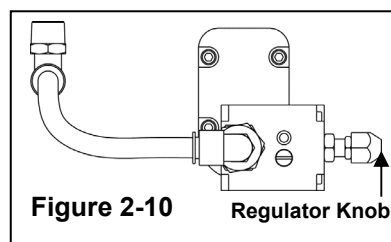

Figure 2-10 Regulator Knob
- Step 1. Deplete the relieving regulator by turning the knob counter-clock-wise until it stops. (See Figure 2-10)